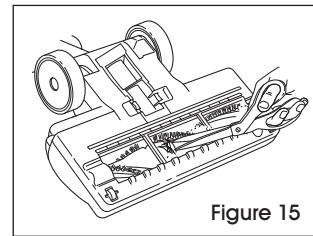

Figure 15
- Remove any blockages or buildup from the airways in the nozzle. With scissors, carefully cut away any fibers, hair or string wrapped around the brush roll. Avoid damaging or cutting the bristles. (See Figure 15)